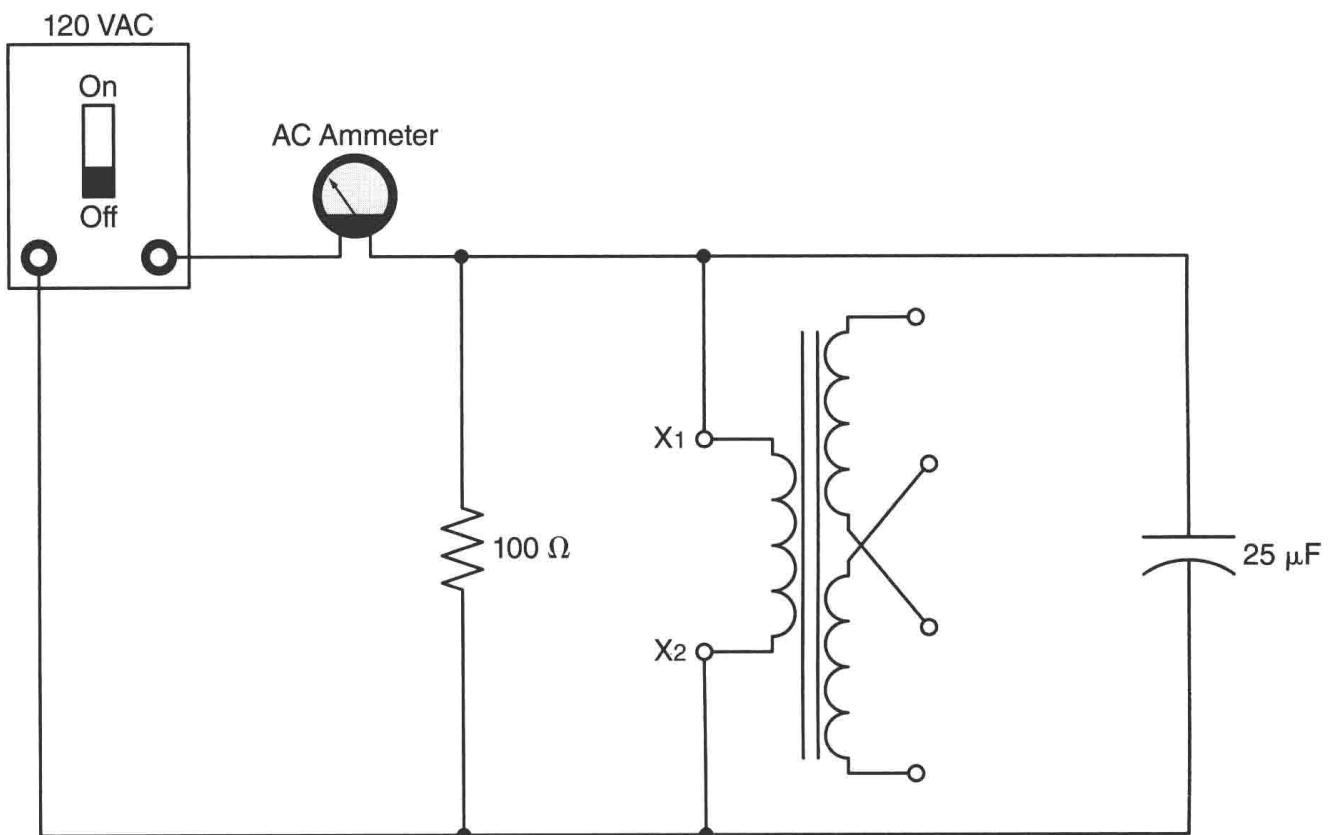

Figure 17-3 RLC parallel circuit.
1. Connect the circuit shown in Figure 17-3.